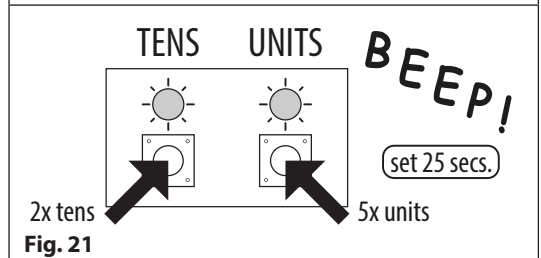

Fig. 21
2. Use the tens and units buttons to set the relay time, e.g. to set the relay time to 25 press the tens buttons twice and the units button 5 times (listen for the confirmation beep each time the button is pressed and observe the yellow tens/units LED's as they should flash each time that each button is pressed), see **Fig.21**;